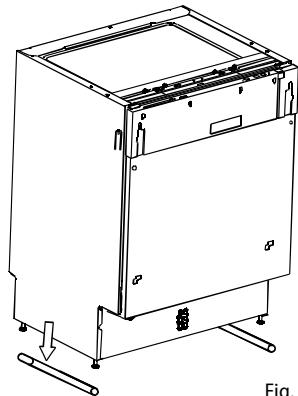

Fig. 23
6. Place plastic strips under the feet (supplied). The floor will not get scratched when moving the dishwasher (Fig. 23).
9. Adjust the dishwasher in the horizontal position using the feet. Adjust the height of the front feet with a wrench (24). Check the horizontal position using a level.